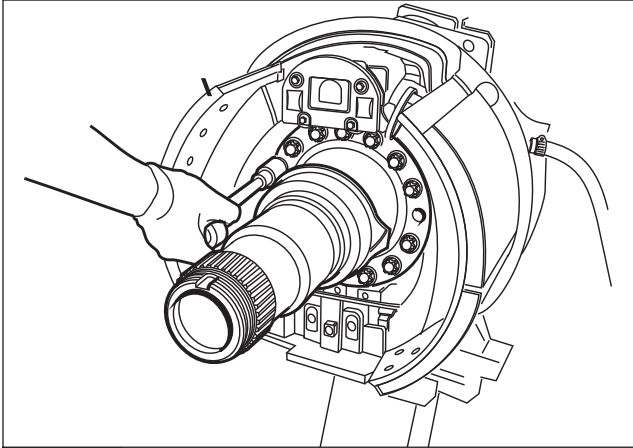

Fig. 3.14
14. When the clevis and the lever are correctly positioned, tighten the wheel and screws in cross with a torque wrench. Fig. 3.14